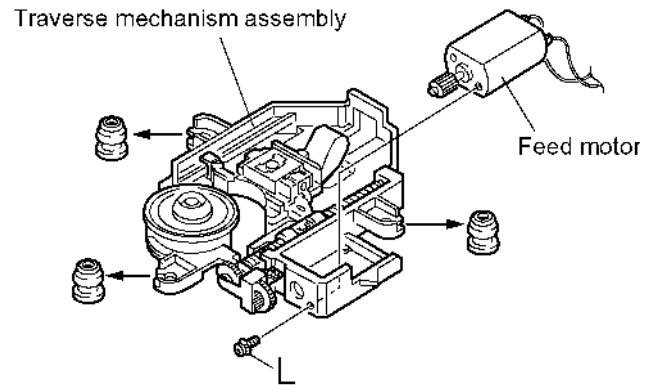

Fig.27
3.1.9 Removing the feed motor (See Fig.27)